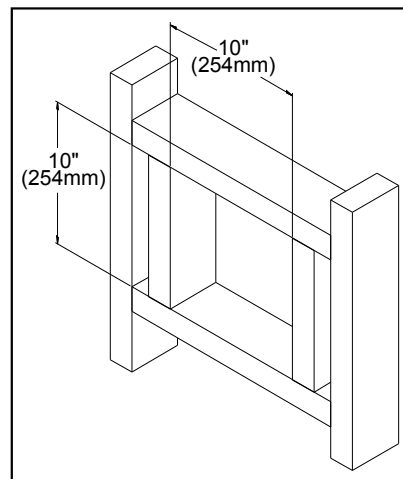

Figure 26: Wall Framing Hole for Horizontal Installation.
4. Frame the hole as shown in Figure 26.
5. Trim the wall thimble to match the wall thickness as necessary. Install the wall thimble and secure it to the inner wall frame using four (4) 1½" wood screws. If a wall is greater than 8" (203mm) in depth, the clearance above the flex must be 4³/₈" (111mm)
3. With the pipe attached to the stove in the correct location, mark the wall for a 10" (25.4cm) x 10" (25.4 cm) square hole (refer to Figure 26). The center of the square hole should match the center line of the horizontal pipe. Cut and frame the 10" (25.4cm) x 10" (25.4cm) hole in the exterior wall where the vent will be terminated. Refer to Figure 18. If the wall being penetrated is constructed of non-combustible material i.e. masonry or concrete, a 7" (17.8cm) hole is acceptable.